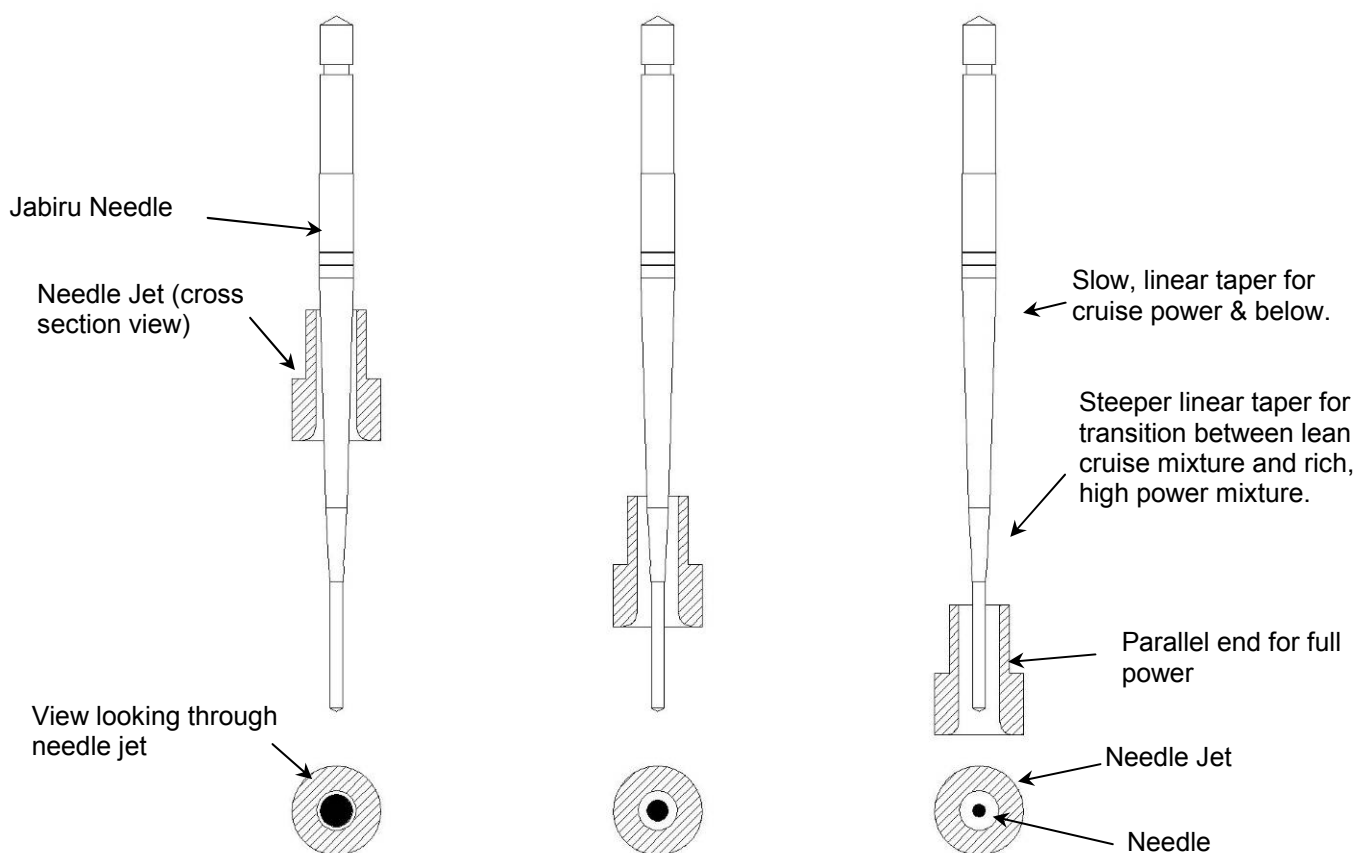

Figure 29. Needle Jet (Jabiru Needle)
- The main and idle jets have simple fixed apertures, while the effective size of the needle jet aperture varies, depending on the diameter of the needle. Figure 29 below shows three different throttle settings in the needle jet and the corresponding difference in aperture. On the left is a low power setting, where the needle jet is nearly completely blocked by the needle. The middle throttle setting corresponds approximately to a high cruise power setting. The gap between the needle and the sides of the jet is much larger. The final setting corresponds approximately to wide open throttle. The needle jet is now effectively not there, and the amount of fuel flowing is controlled by the main jet (located upstream of the needle jet in this circuit).